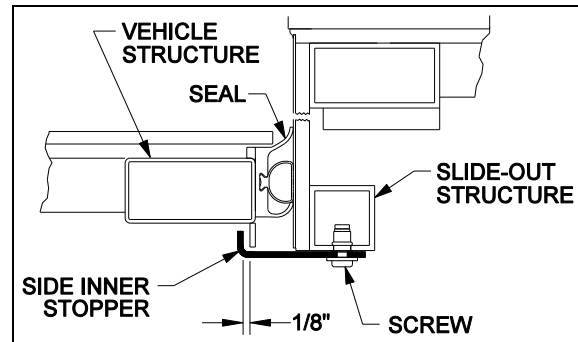

FIGURE 4 : SIDE INNER STOPPER
1. Adjust the side inner stoppers at 1/8" from the vehicle structure stoppers, and tighten the screws (figure 4).